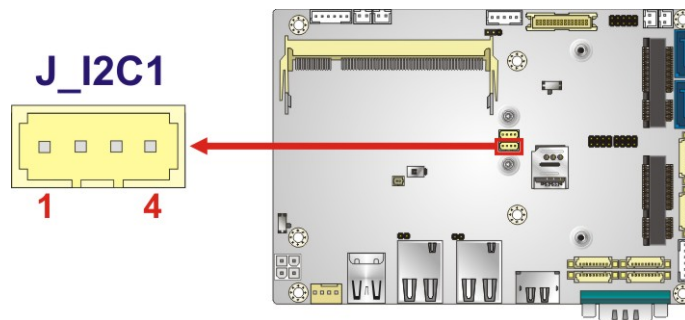

Figure 3-7: I²C Connector Location
- CN Location:** See **Figure 3-7**